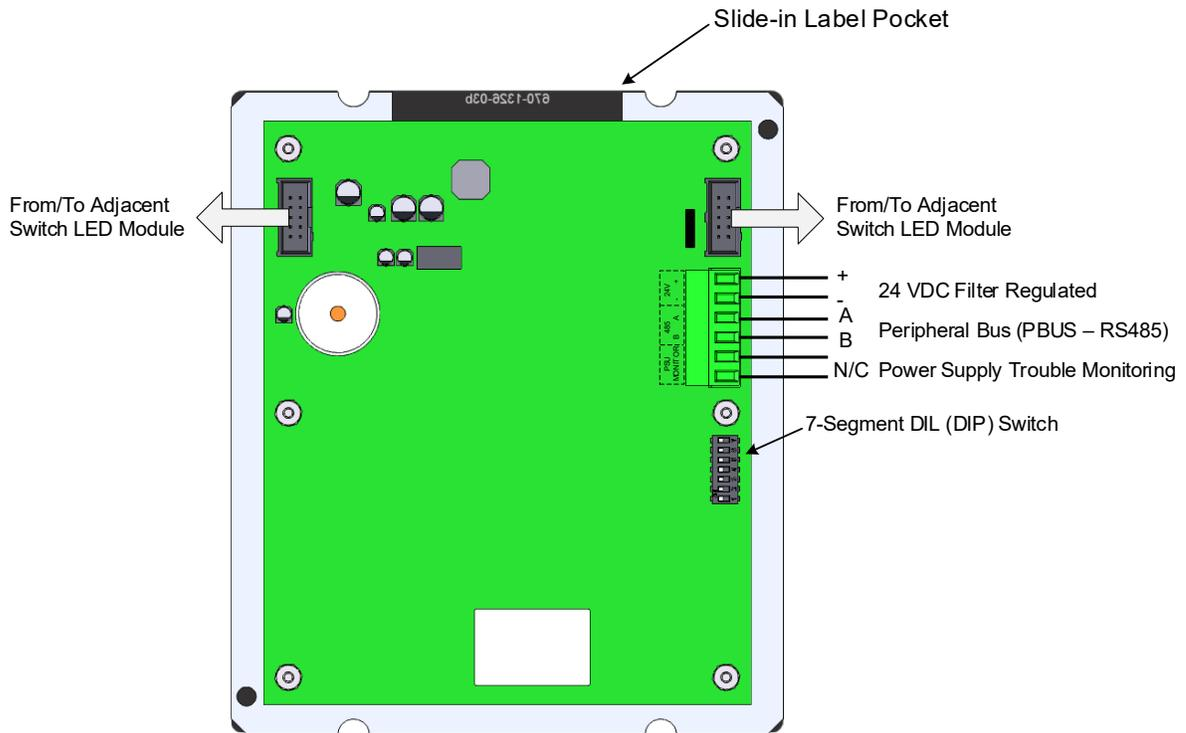

Figure 40 - Switch LED Module Wiring
1. Remove the 14-pin flat ribbon cable female connector from the 14-pin male port on the NX10-EM-PRN printed circuit board (PCB) (Figure 40).
7. Install the adapter card 10-pin ribbon cable and feed it through the bottom cable clip mounted on the enclosure inner door, then plug it into the NX10-FACP base card's PL2 port (Figure 40).
8. Take the 14-pin flat ribbon cable with female connectors (supplied) and attach one end to the 14-pin male port on the adapter card. Feed the cable through the two cable clips (one installed on NX10-ACS-DSP PCB and the other installed on the NX10-EM-PRN mounting plate) and plug it into the 14-pin male port located on the NX10-EM-PRN printed circuit board (Figure 40).